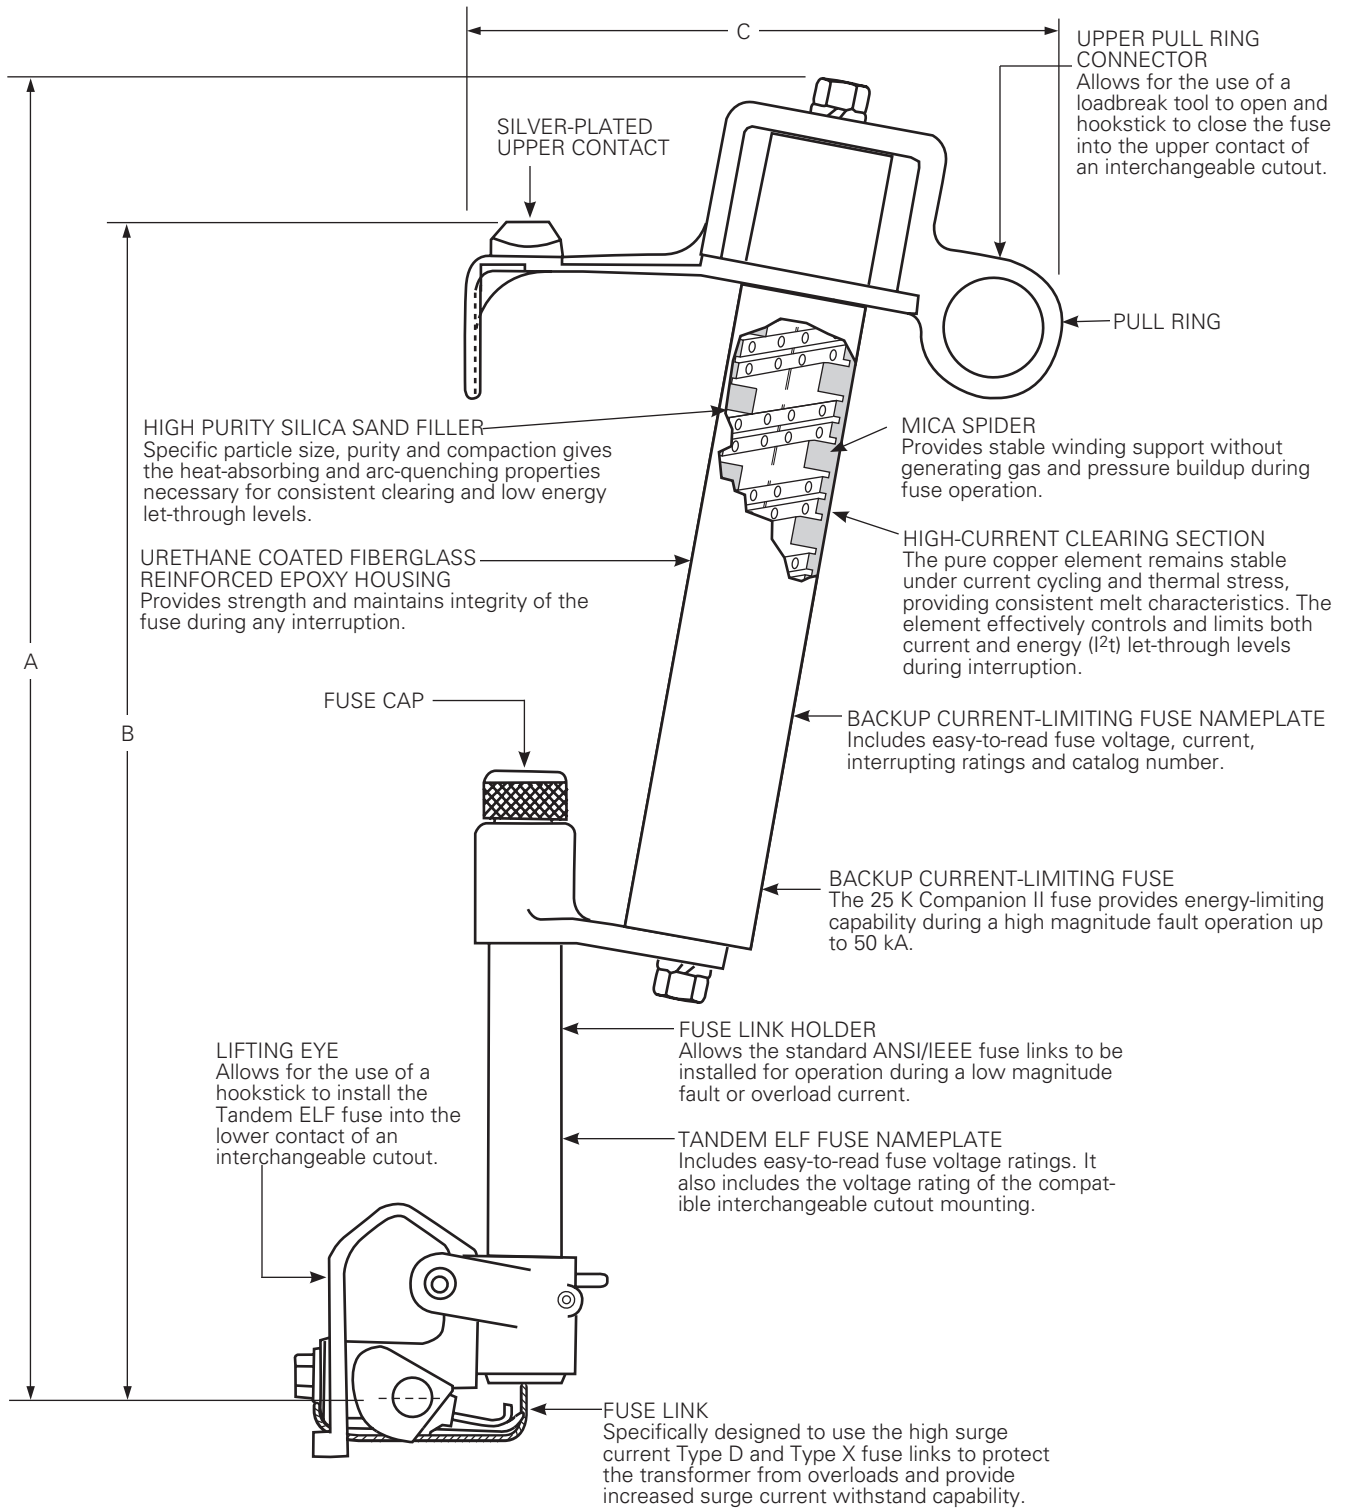

Figure 1. Line illustration of Tandem ELF fuse with dimensions. (Refer to Table 2.)
**Table 2. Tandem ELF Fuse - Dimensional data (Refer to Figure 1) in Inches (mm)**